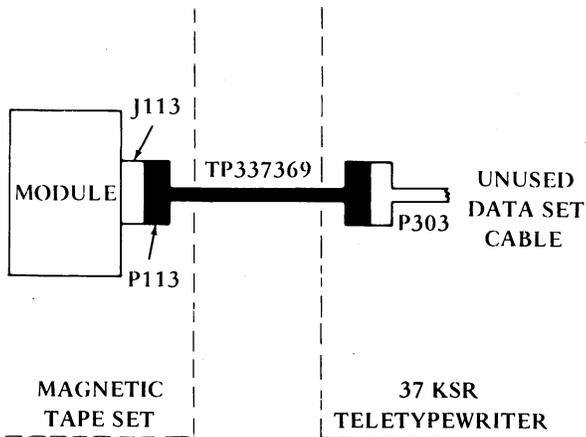

Figure 11 - Magnetic Tape Set Interfaced to 37 Teletypewriter for Local, Off-Line Applications
3.45 This interconnection is achieved through the unused EIA interface connector on the teletypewriter, as shown in Figure 11. The procedure is as follows: